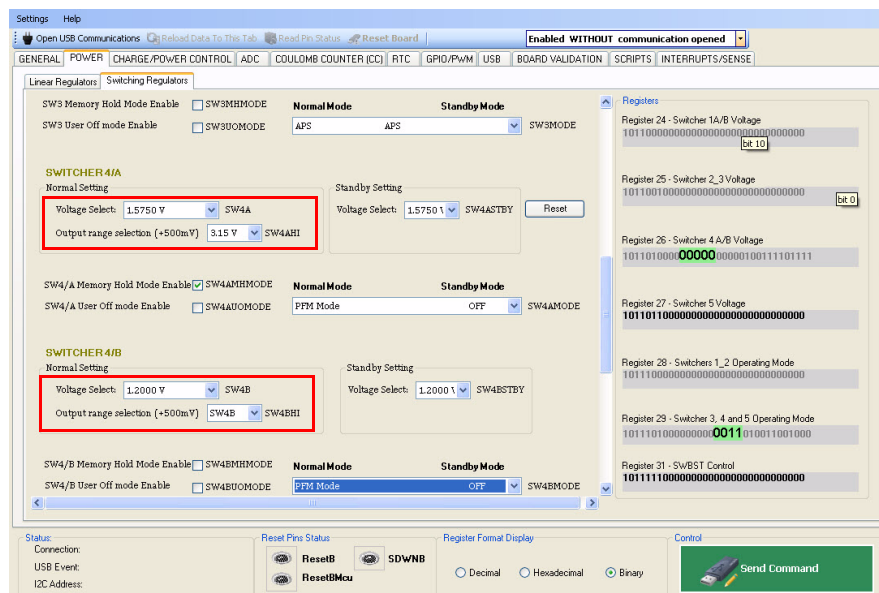

Figure 23. Switching Regulators Sub-tab Configuration Window 2
- The switching regulators configuration features in Figure 23 include: the output voltage range selection for switching regulators **SW4A** and **SW4B**.